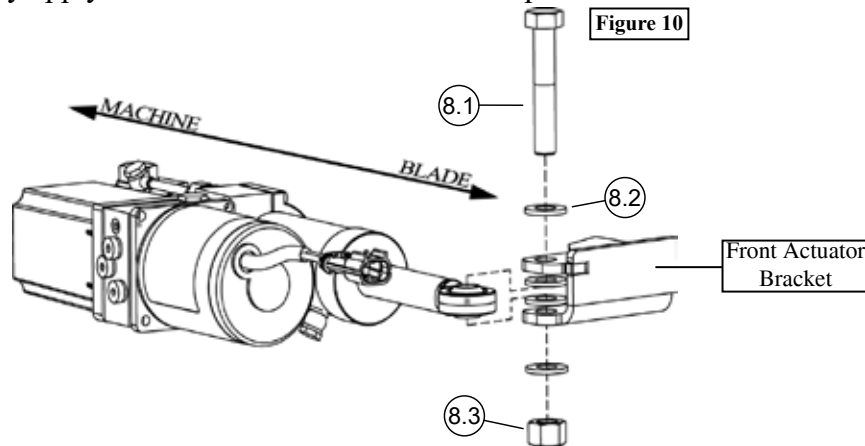

Figure 10
2. Repeat previous step for mounting the front half of the actuator, as shown in **Figure 10**. It is most important that you use the washers to make sure that the actuator is parallel to the cradle swivel point, as shown in **Figure 11**. Both front, and rear bolts should not be tight, thread the nut on until Nylock is fully engaged.